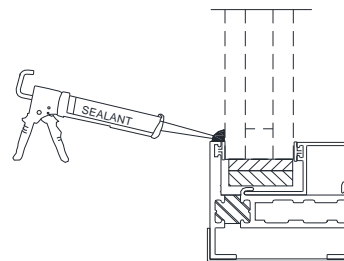

Figure 15:
2. After glazing, apply a continuous bead of sealant to the frame and glass (Figure 15).
- Align corner glass panels in frame leaving a 1/4" gap between glass for sealant (Figure 15). Orientation and sealant requirement options shown in Figures 16-19.